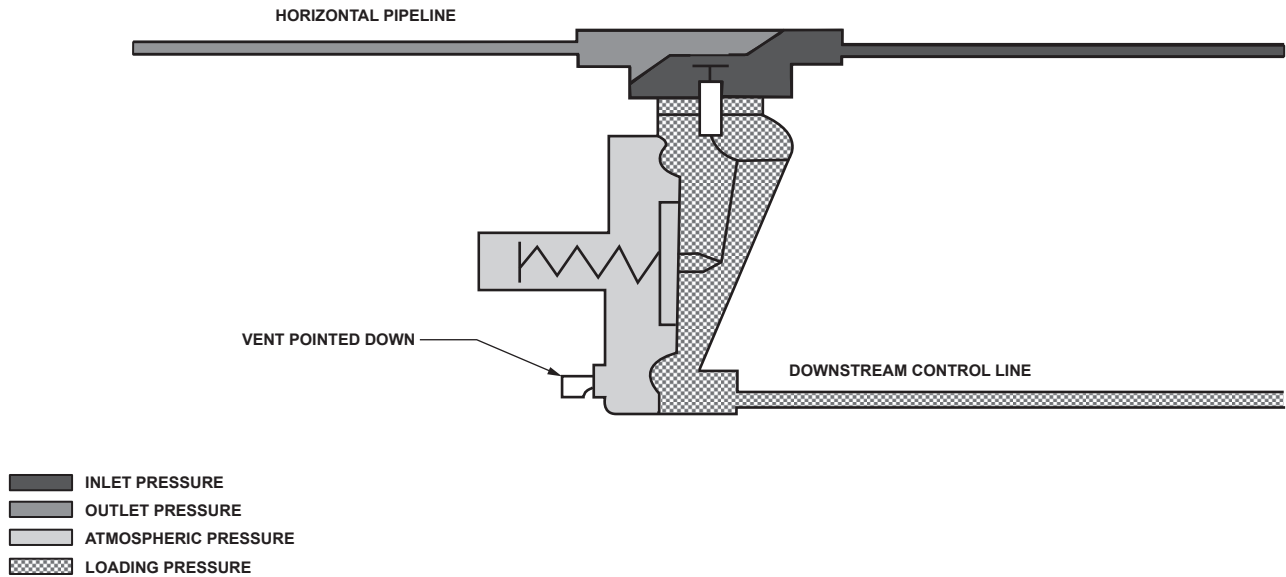

Figure 3. Type T205B Actuator Casing Drainage
2. The regulator may be installed in any position as long as the flow through the body is in the direction indicated by the arrow on the body. For proper operation to achieve the published capacities at low setpoint, the spring case barrel should be installed pointing downward as shown in Figure 1. For complete actuator drainage, the regulator should be installed as shown in Figure 3. If continuous operation of the system is required during inspection or maintenance, install a three-valve bypass around the regulator.